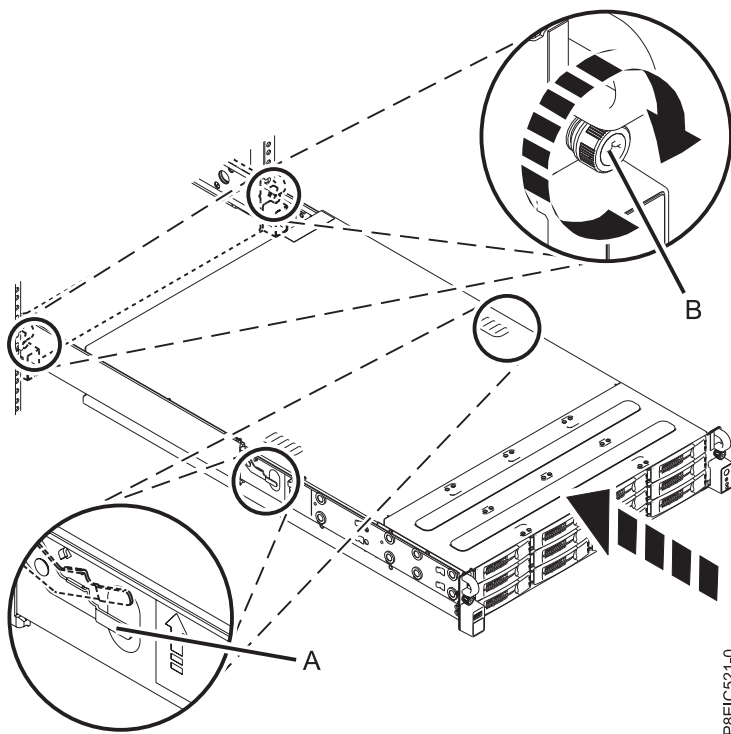

Figure 119. Placing the system into the operating position
5. Release the rail safety latches (**A**) by lifting them upward, as shown in Figure 119, then push the system fully into the rack.